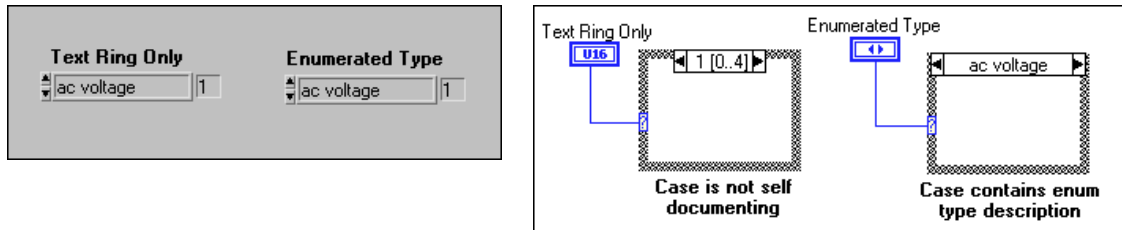

Figure 17. Comparison Between Using a Text Ring and an Enumerated Type Ring Control.
- Use enumerated types instead of standard text ring controls. It is preferable to use enumerated types since selections for case structures are self-documenting when wired directly to an enumerated-type control or constant. When end-users are creating their higher level applications and use the “Create Constant” or “Create Control” feature introduced in LabVIEW 4.0, their applications will be more understandable with an enumerated type rather than a numeric constant. The example in Figure 17 illustrates the difference.